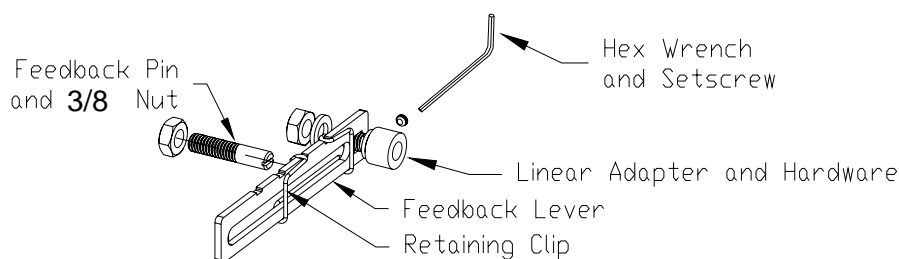

FIGURE 4 Feedback Lever and Retaining Clip Orientation
1. Secure feedback arm to linear adapter with the supplied split lockwasher and nut. See Figure 4.